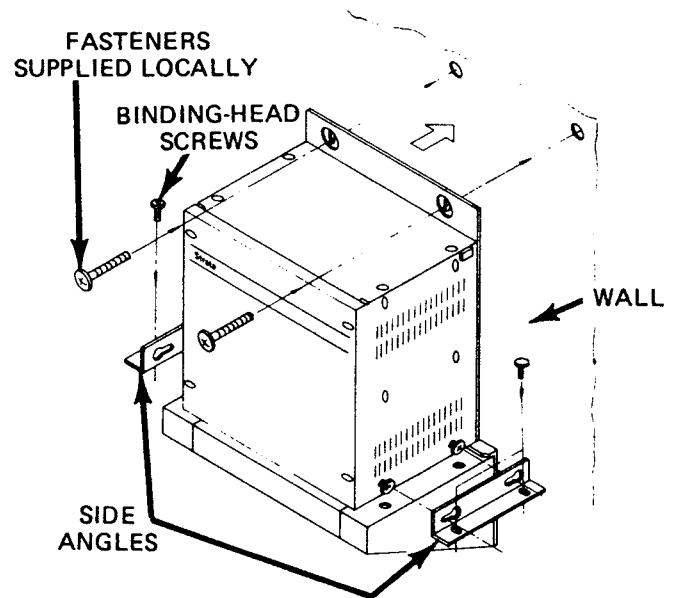

FIGURE 8—MKSU
04.28 Refer to Figure 8, and complete the wall mount installation as follows: